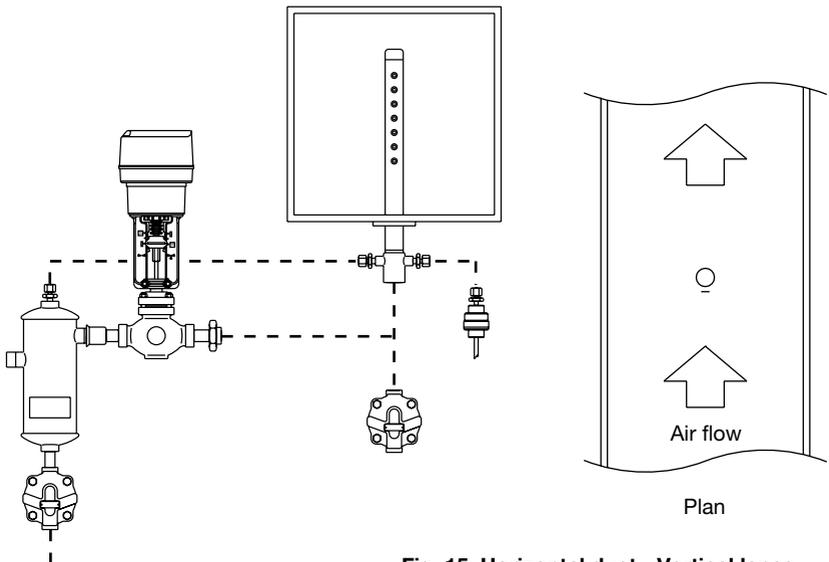

Fig. 15 Horizontal duct - Vertical lance
- 3.2.3 The connection of the lance to the separator with these fittings, allows the correct orientation of the lance to be achieved, i.e. nozzles facing **into** the air flow (except for the installation shown in Figure 15, page 14). This is important to consider as the lance(s) can be inserted from either the left hand side or the right hand side of the duct.